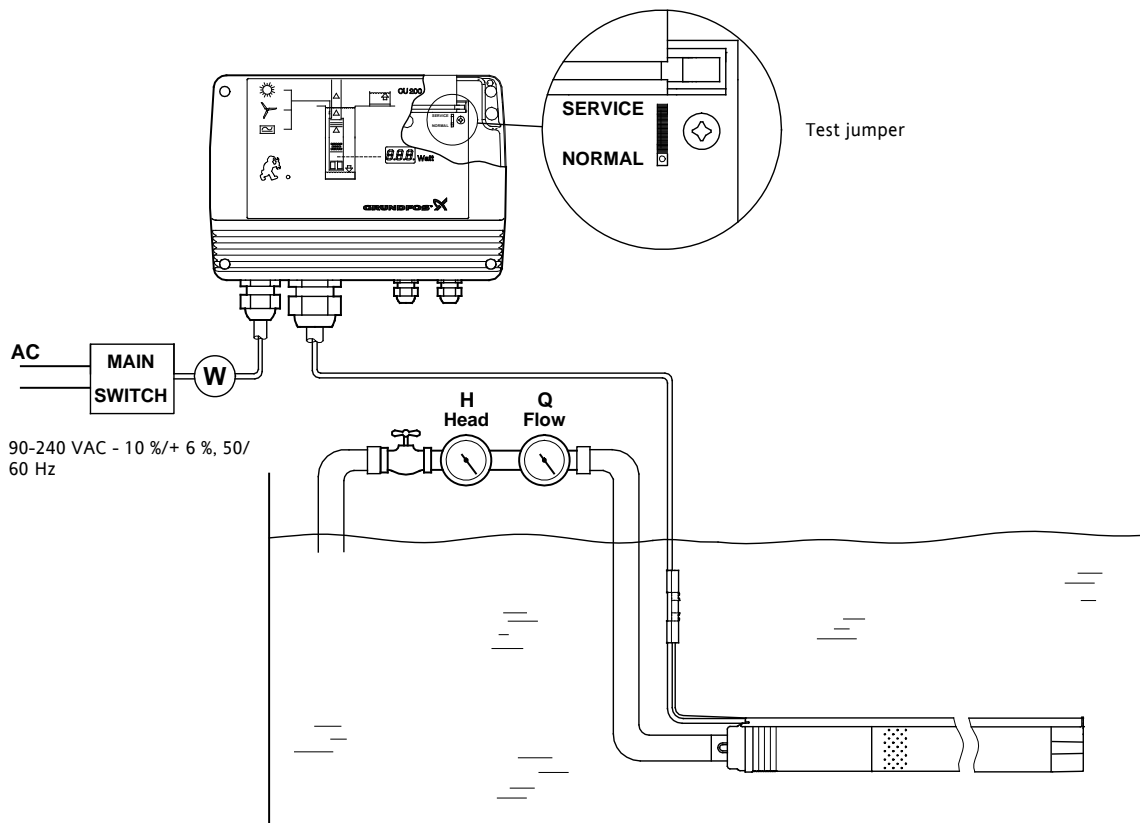

Fig. 81 Testing the pump using a CU 200 control unit
3. Remove the front cover of the CU 200, and set the test jumper to service position. See fig. 81. Refit the front cover.
10. In the relevant curve chart, find the intersection point of the values read for flow (Q) and power consumption P_1 [W].